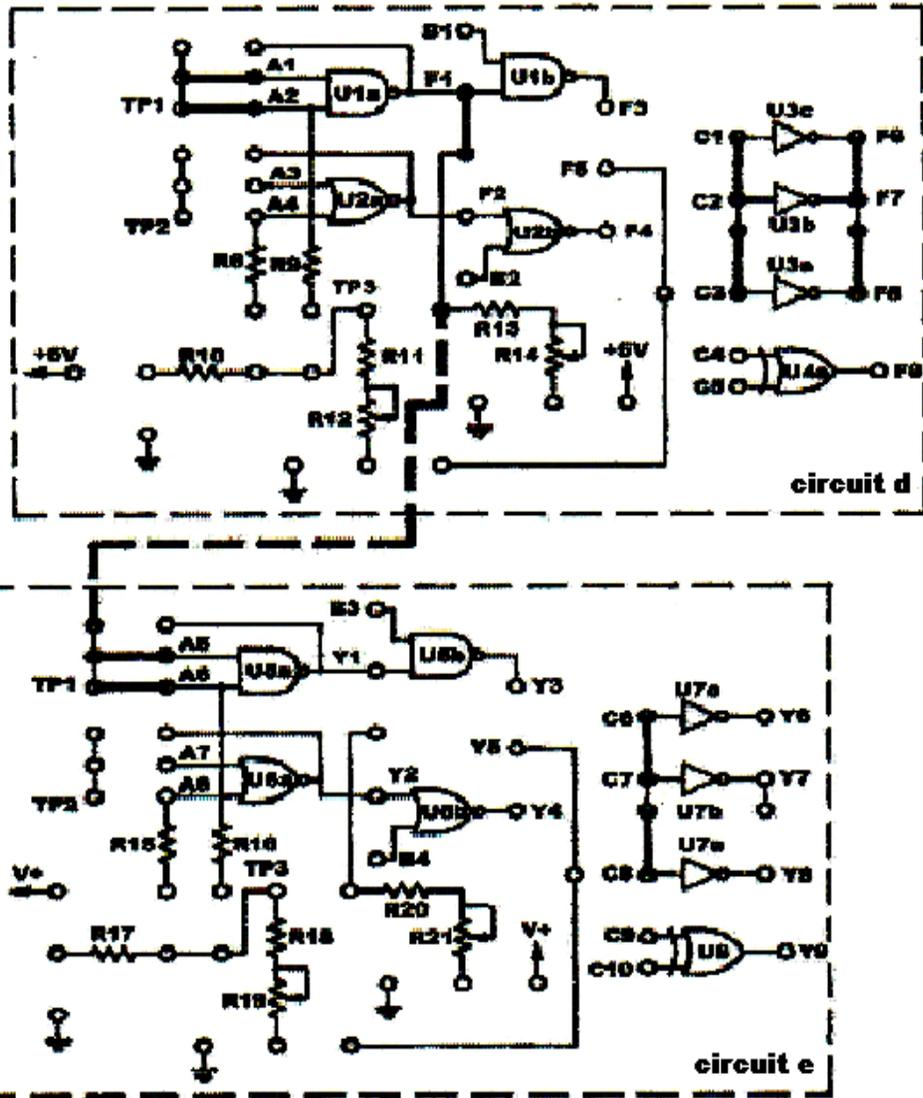

Fig. 1-7 (c)
1. U7a~U7c on circuit e of Module DLLT-EM01 will be used in this section. Insert connection clips according to Fig. 1-7 (c).